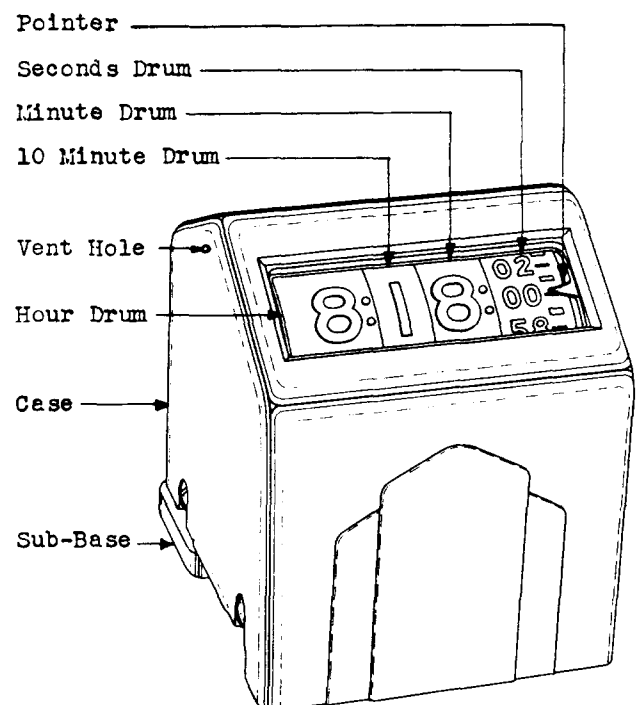

Fig. 1 — KS-8263 Switchboard Clock
3.002 Ventilation: For clock cases which are not provided with vent holes, drill a 3/32-inch hole in each end of the case, near the top as shown in Fig. 1, in order to prevent moisture from condensing inside the clock.